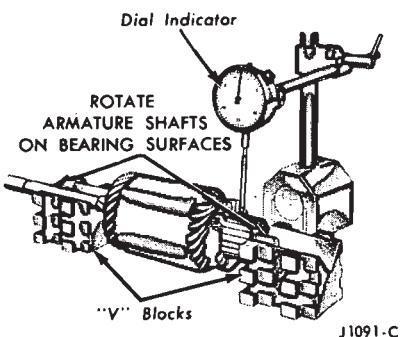

FIG. 10—Commutator Runout Check
4. Check the commutator for run-out (Fig. 10). Inspect the armature shaft and the two bearings for scoring and excessive wear. On a starter with needle bearings apply a small amount of grease to the needles. If the commutator is rough, or more than 0.005 inch out-of-round, turn it down.